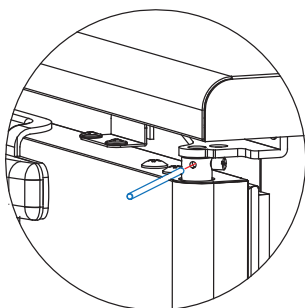

Fig 9-36
1. Remove Front Cover Grill and Shaft Cap. Insert one steel stick into the shaft hole. (Fig 9-36)